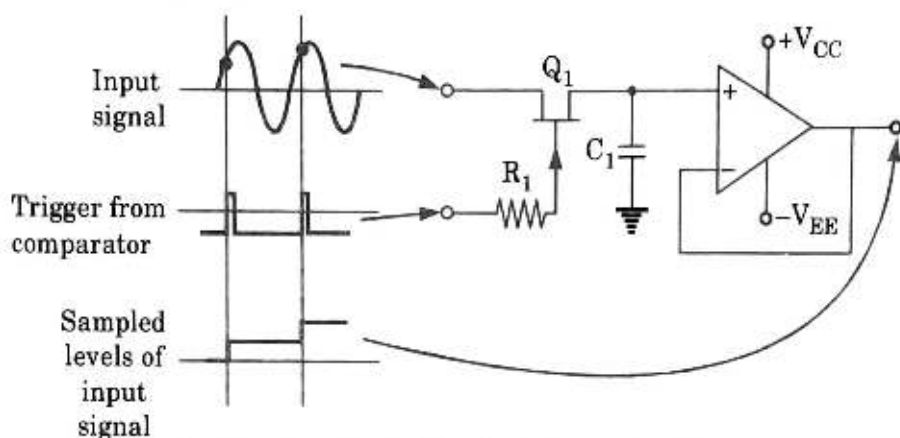

Fig. 4.12.2. Basic sampling gate circuit and waveforms.
1. The sampling gate is shown in Fig. 4.12.2.